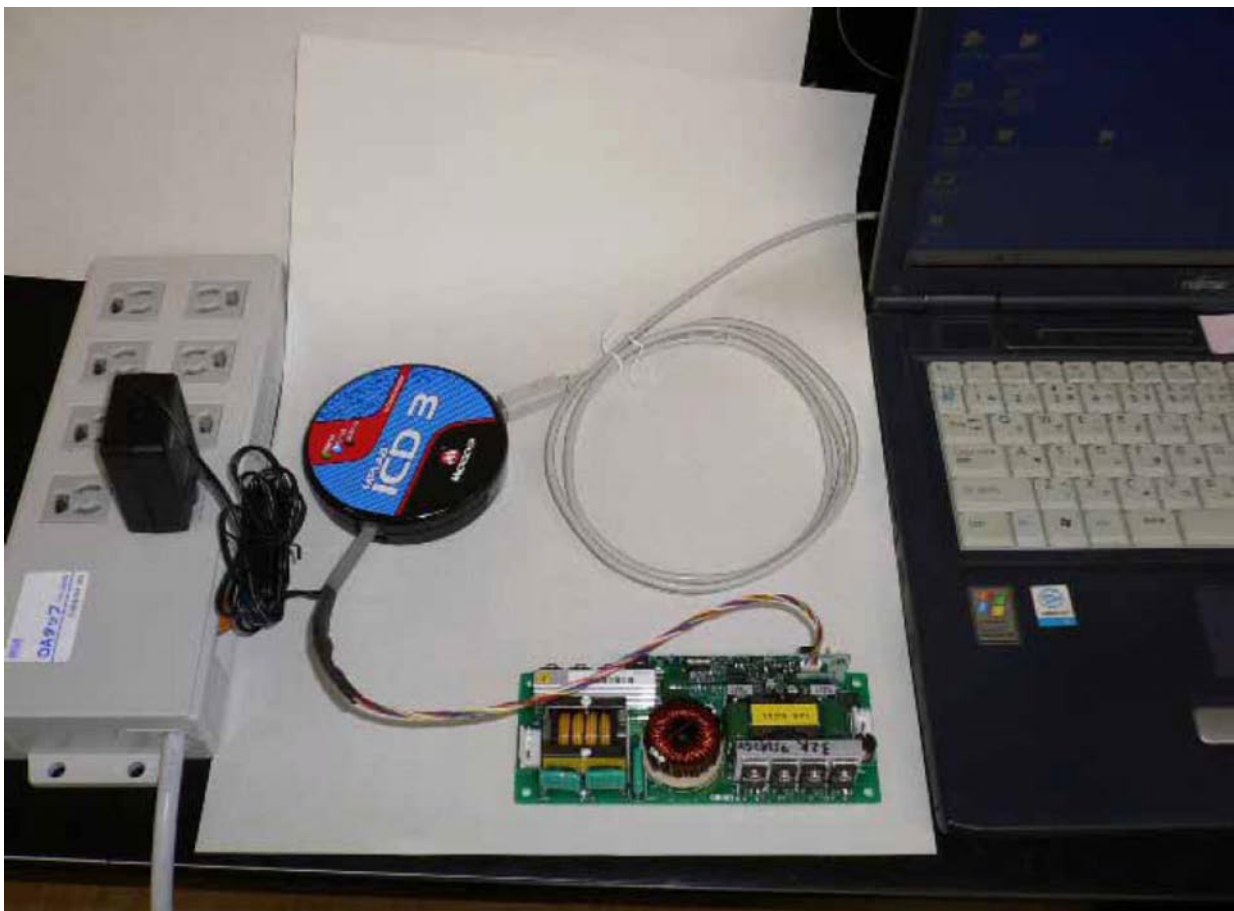

Fig. 0
(1) ICD3 setting Connect an USB cable and ICD3 and an ICD3 harness (Fig. 0)